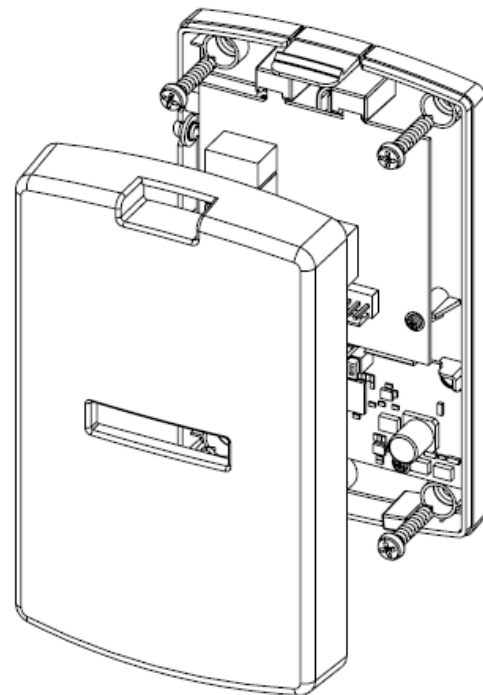

Figure 14
1. The mounting bracket is attached using five screws and the thermostat controller can then be snapped into place on the mounting bracket as shown in Figure 14.